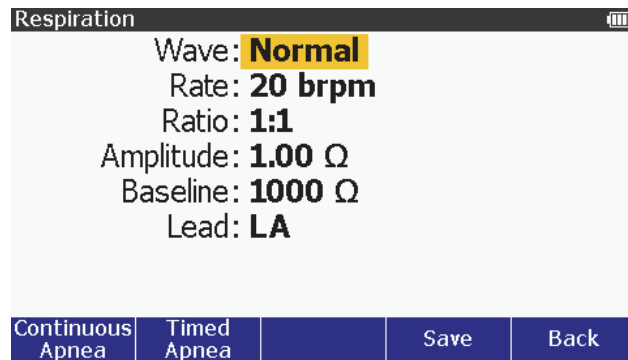

Figure 25. Respiration Screen
3. Push **ENTER**. The Respiration screen in Figure 25, shows on the display.